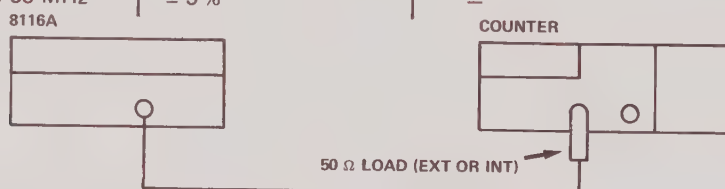

Figure 4-1. Test Setup for Frequency, Burst and Sweep
1. Connect equipment as shown in Figure 4-1.
- Connect equipment as shown in Figure 4-1.
3. Use Figure 4-1 test setup and set counter to START.
4. Press 8116A's MAN button and verify that counter now displays the set number (816) of output cycles. (5345A reading will be 815, since first pulse arms the counter).